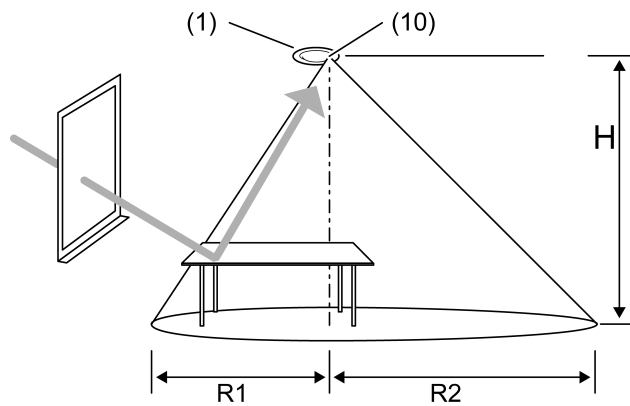

Figure 7
- When mounting, align the device so that the brightness sensor (10) is not facing the window (Figure 7).